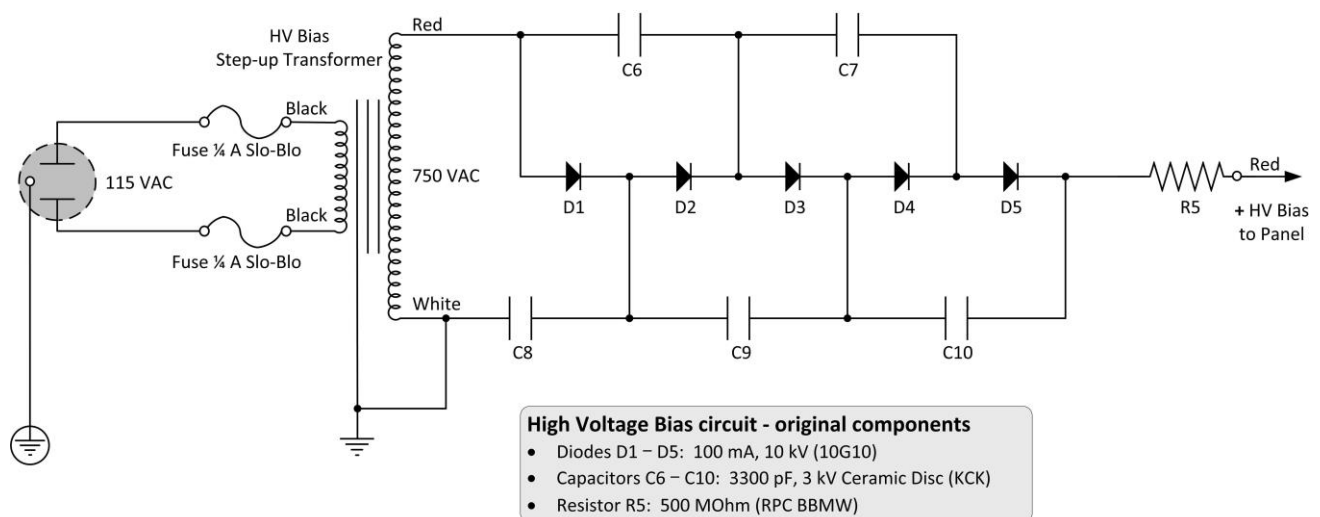
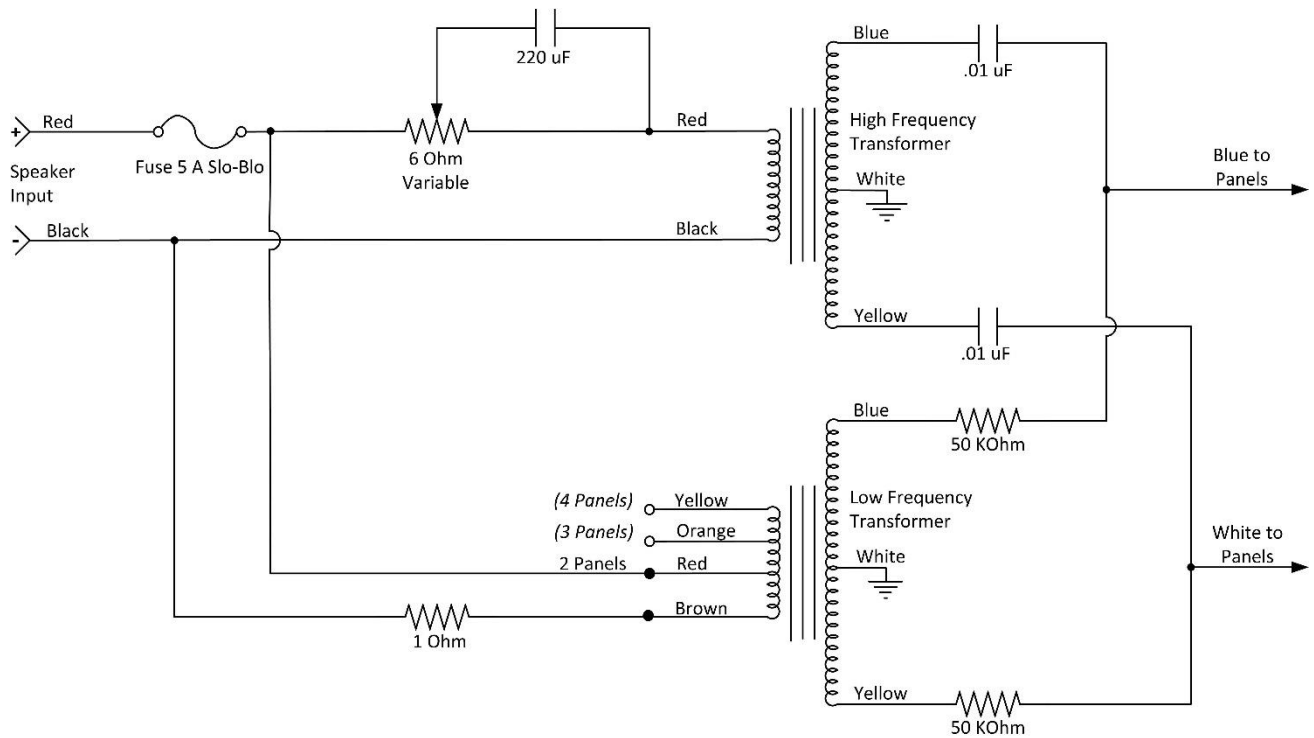

Figure 4. High-voltage circuit, original as purchased new - 1980.
Figure 11. Audio circuit, original as purchased new - 1980.
- To better understand the component circuitry and layout, circuit diagrams were created for the original 1980 configurations, high-voltage section (Fig. 4) and audio section (Fig. 11).